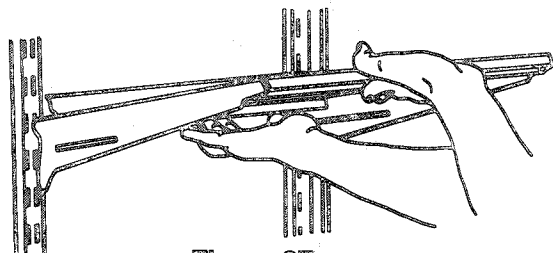

Figure 27
- To remove "cantilever" shelves, tap upward at back of shelf, near the metal track. See Figure 27. This will loosen shelf hooks. Lift shelf and pull out.